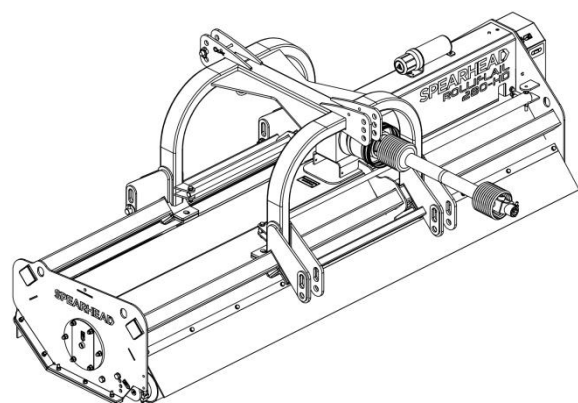

Figure 1.11
- 1.5.2.5 The machine is now ready for front mounting, see Figure 1.11.